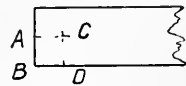

Fig. 39
Or, as in Fig. 39, find the middle of the end (A) and also the same distance (D) from the corner on